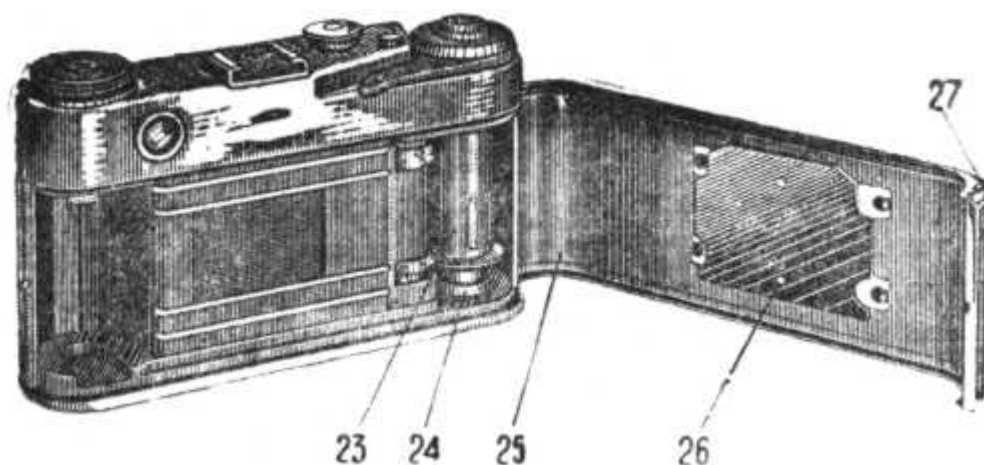

Fig. 6
1. Removing, Replacing, Opening and Closing the Camera (Fig. 6)